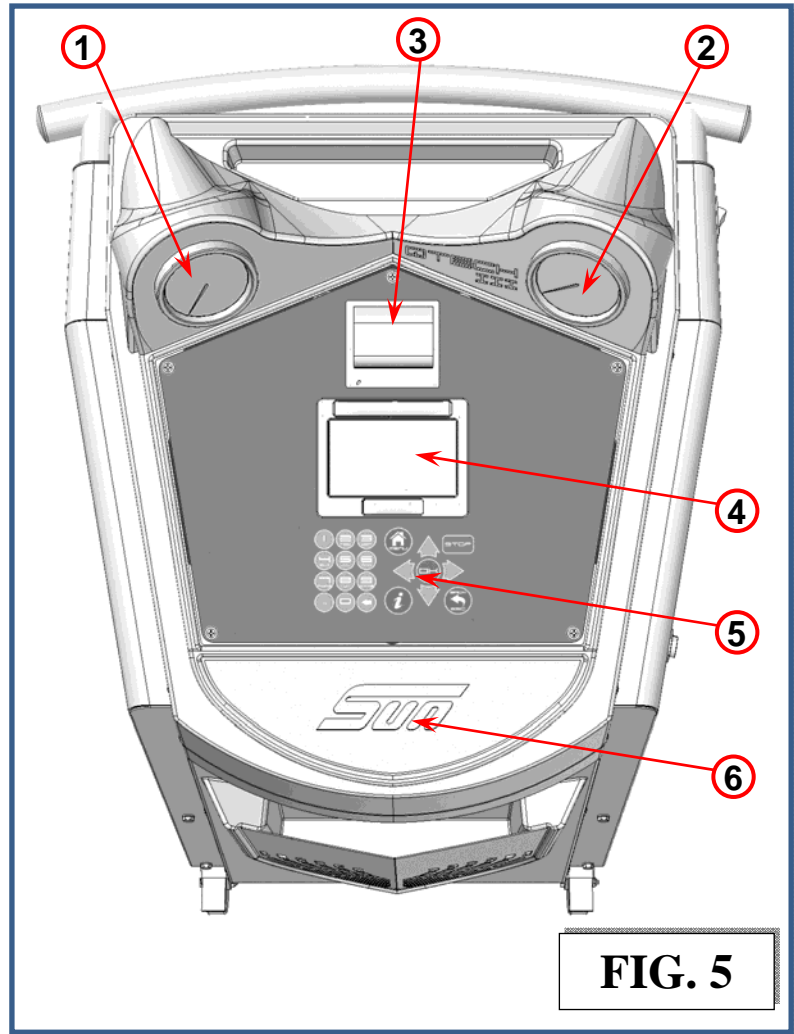

FIG. 5
Refer to Fig.5 :
Only if the machine is provided with a LED Light (ref 6, Fig.5)